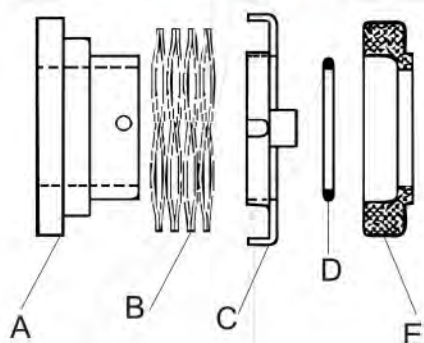

Figure 22 - Carbon Seal
5.2 See Figure 22. Assemble the spring (item B), seal cup (item C), o-ring (item D) and Carbon Seal (item E), and install as a unit, taking care that slot in seal cup aligns with the pin on shaft. Gentle pressure on the o-ring will overcome resistance on the shaft.
5.5 Rotate the backplate until the backplate pins engage the adapter pins. (See Figure 22 item A and B).
5.6 Rotate the shaft until the pin hole in the end is in a horizontal position. Insert the impeller pin (See Figure 22 item C), center it in the shaft end and slide the impeller (See Figure 27 item D) on the shaft.